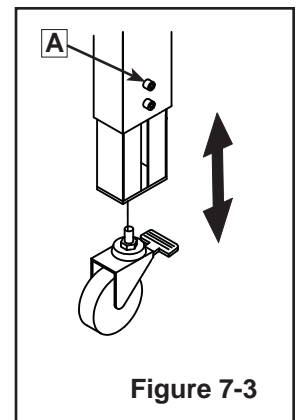

Figure 7-3
- 2 - Adjust machine bed height. The case sealer is equipped with four (4) adjustable legs that are located at the corners of the machine frame. The legs can be adjusted to obtain different machine bed heights (Figure 7-3).